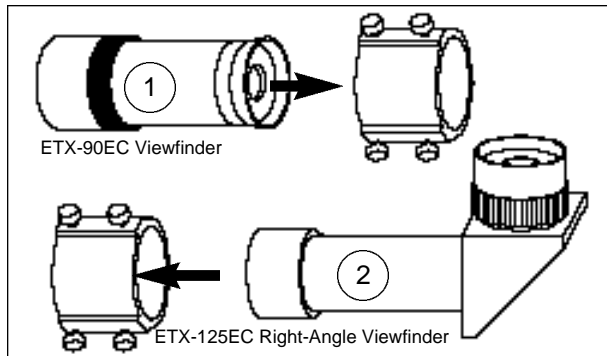

Fig.3: Installation of the Viewfinder.
1. a. **ETX-90EC 8 x 21mm Viewfinder:** Slide the eyepiece end of the viewfinder through the *front* of the viewfinder bracket (1, Fig. 3).
- b. **ETX-125EC 8 x 25mm Right-Angle Viewfinder:** Slide the front cell end of the right-angle viewfinder through the *rear* of the viewfinder bracket (2, Fig. 3).